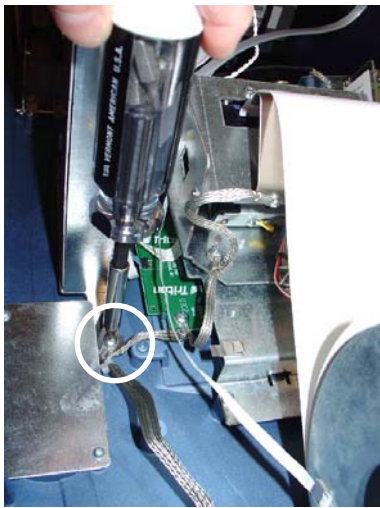
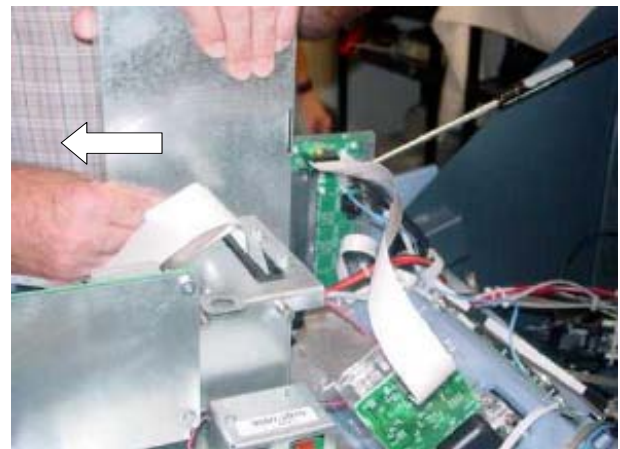

Figure 2. Remove screw.
Figure 3. Disconnect Main board from Docking board assy.
3. Remove the phillip-head screw that secure the Main board assembly and ground harness to the control panel (Figure 2). Carefully unplug the Main board from the PCI connector on the Backplane assembly (Figure 3). Place the Main board on a flat surface.